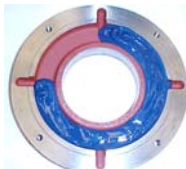

Figure 7.3: Outer bearing cap
- Fill up to ¾ of the inner and outer bearing cap deposits with the recommended grease (Figure 7.3) and lubricate the rolling bearing with enough grease before assembling it;
When the bearing is opened, inject the new grease through the grease nipple to expel the old grease found in the grease inlet tube, and apply the new grease in the rolling bearing, to the inner and outer rings, filling 3/4 of the empty spaces, as shown in Figure 7.3. In case of double bearings (ball bearing + roller bearing), also fill 3/4 of the empty spaces between the intermediate rings; Never clean the rolling bearing with cotton-based cloths because they leave some lint, working as solid particles.